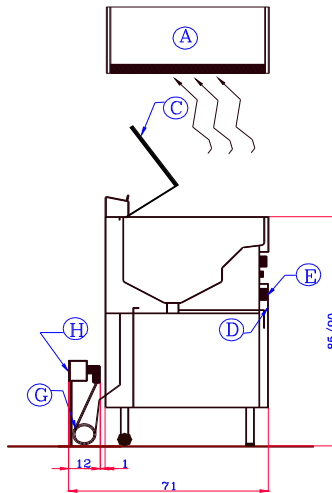

Fig. 2: Fryer free-standing (next to cooking range)
3.2.2 Installation example II (Fig. 2)